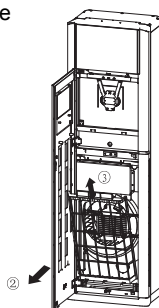

Fig.9
1.As shown in Fig.9,take out the decorative strip at position 1 and then unscrew the screws.Remove the screws fixing the filter after opening the glass panel.At last take out the filter along the arrow direction at position 3.